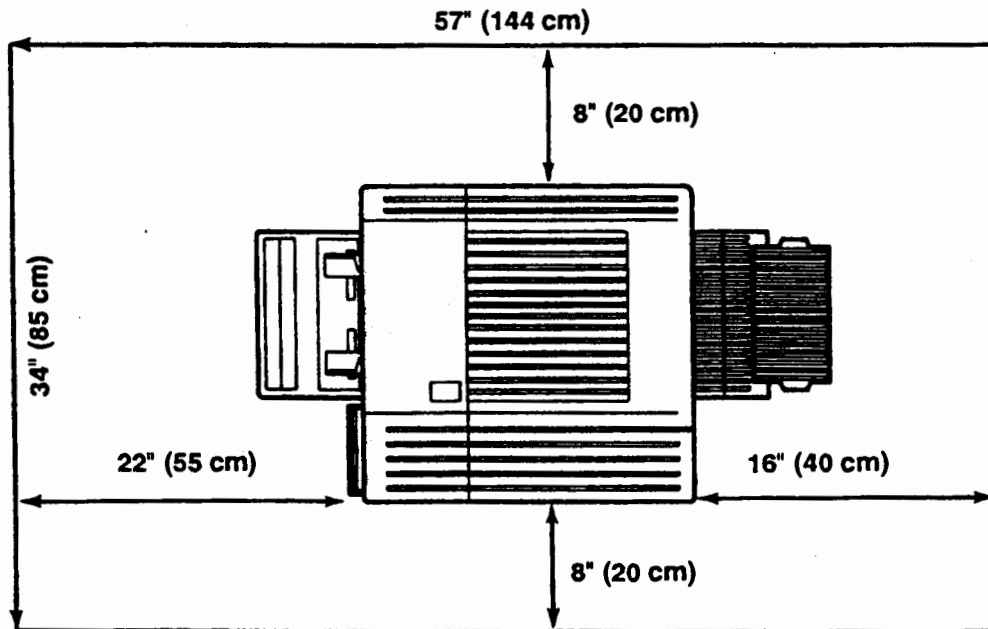

Figure 2-1. Printer Space Requirements
- Sufficient space should be provided to permit unimpeded printer operation and adequate ventilation (see Figure 2-1).